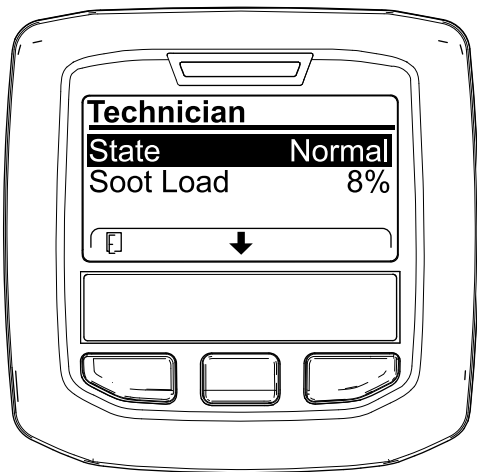

Figure 31
- Use the DPF operation table to understand the current state of DPF operation (Figure 31).